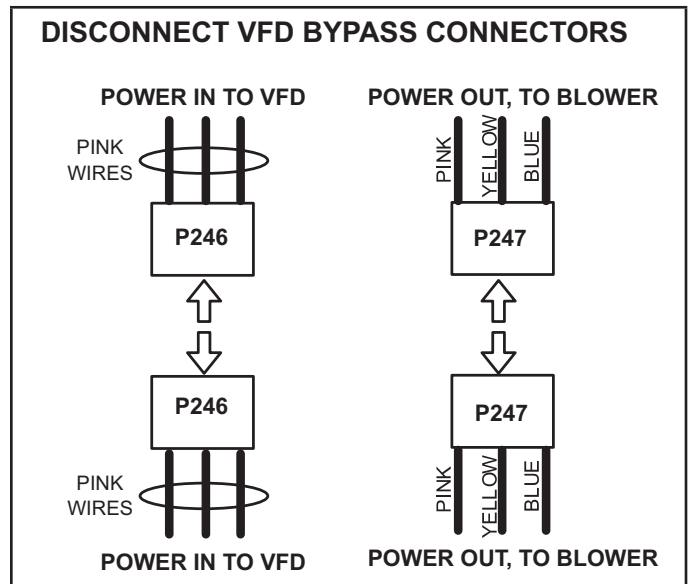

FIGURE 28
- 3 - Disconnect P246 from P246 (power in to VFD) and P247 from P247 (power out to blower). See figure 28.